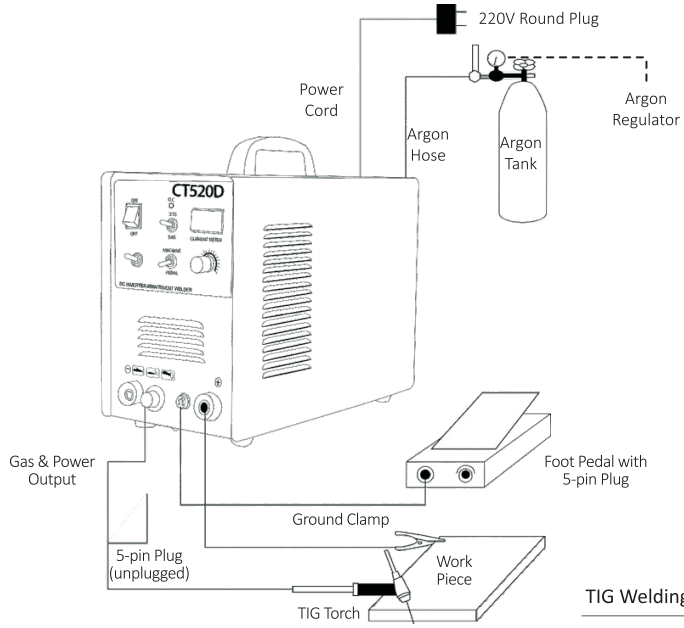

Figure 2.6:
- Install the argon torch according to the Figure 2.6.